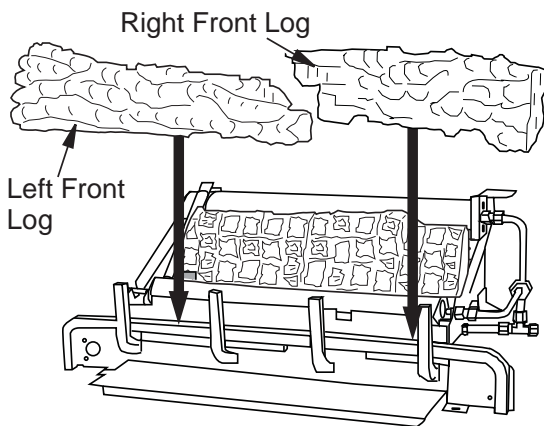

Figure 29 - Installing Left/Right Front Logs
- Place front left (18" D-064, 24" D-057 & 30" D-038) and front right (18" D-065, 24" D-058 & 30" D-039) logs as shown in **Figure 29**.